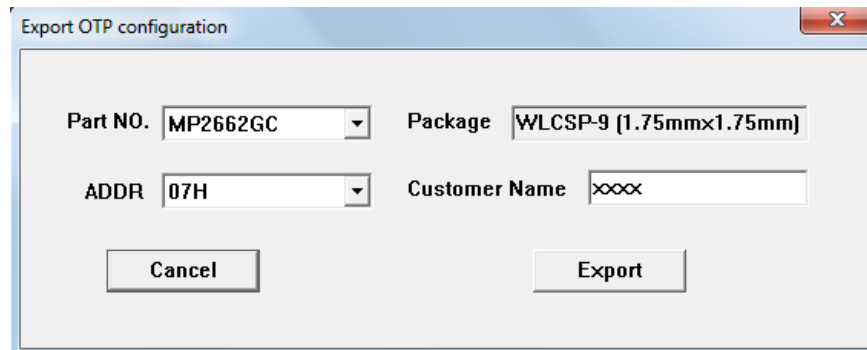

Figure 10: Exporting OTP Configurations
6. Ensure that all the parameters are populated before selecting “Export” in the toolbar. Export the selected configurations by clicking “Export” (see Figure 10).